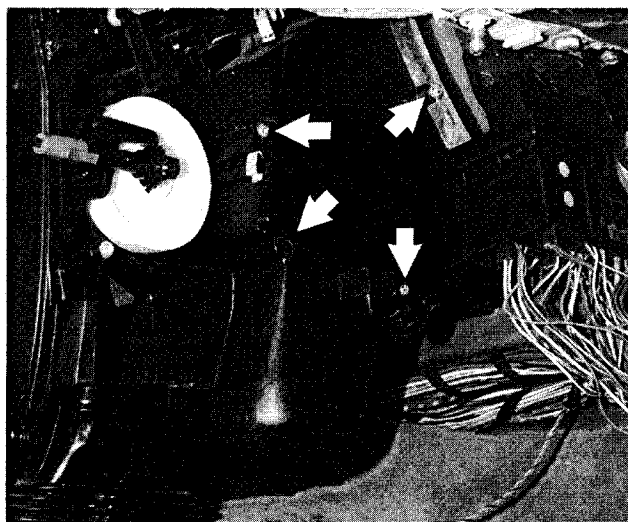

Fig. 46. Four screws retain expansion valve cover (arrows).
4. Remove right side control module carrier screws and tilt carrier down. See Fig. 46.
5. Remove expansion valve cover. See Fig. 46.